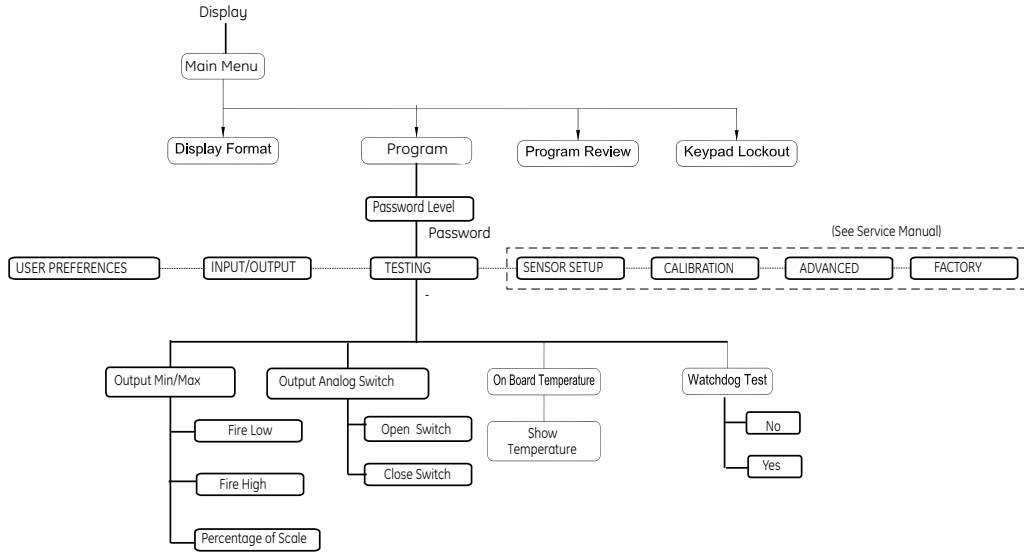

Figure 27: Testing Menu Map
- Figure 27, “Testing Menu Map,” on page 85